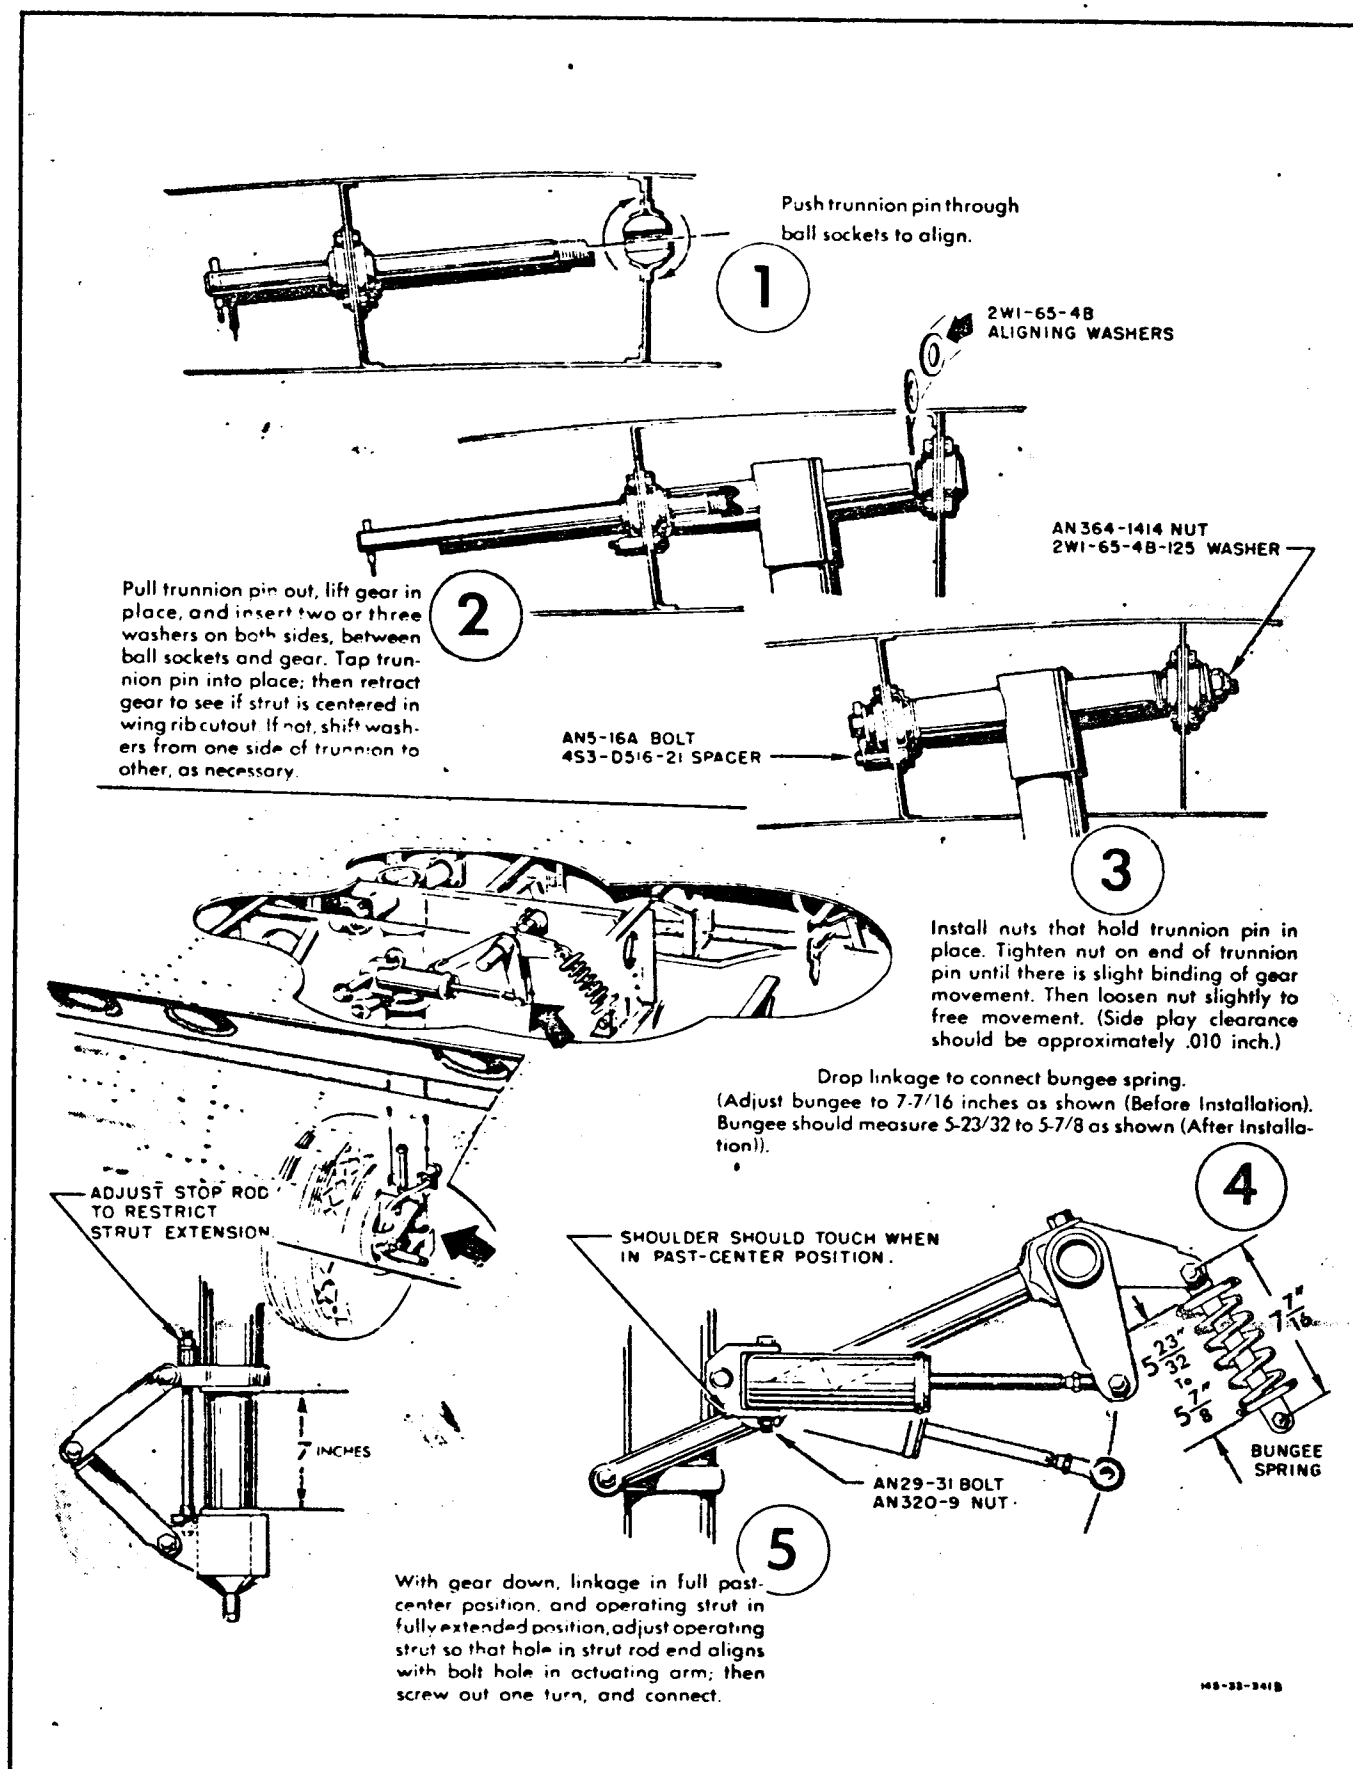

Figure 30 - INSTALLING AND REMOVING MAIN GEAR ASSEMBLY
4. Operate landing gear to the up position, and check linkage adjustments and proper engagement of up-locks as shown in figures 30 and 31. Then hang 12-pound weight on each wheel, and retract gear. Gear should retract and lock.
5. Operate landing gear to the down position and check for proper down-locking as shown in figures 30 and 31.
**Installing and Removing Main Gear Assembly—See figure 30.**